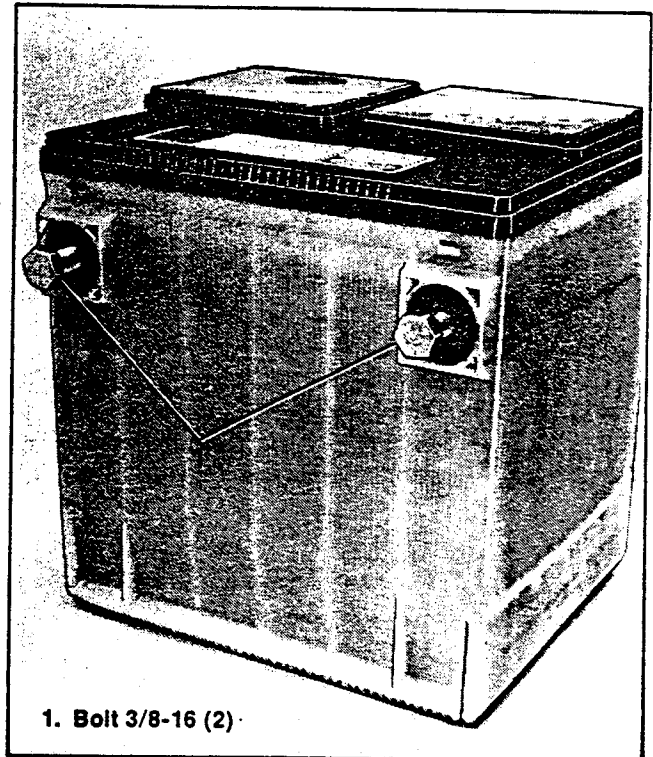

Figure 8-39. Battery — Charging Out Of Car
1. Thread a 3/8-16 bolt into each terminal, hand tight (see Figure 8-39).